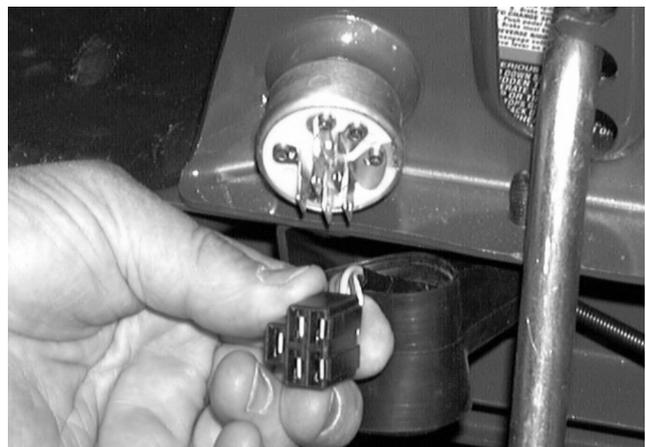

FIGURE 1.
- 2). Locate the ignition switch and remove the wiring harness connector. See figure 1.